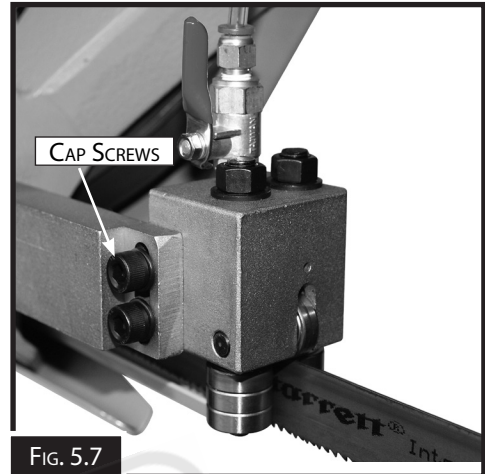

FIG. 5.7
4. Loosen the cap screws (Fig.5.7) and adjust the blade guide housing so the back of the blade just touches the bearing, making sure the guide housing is not tilted.